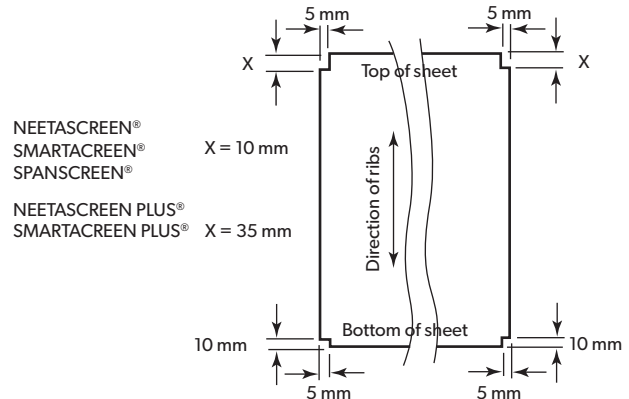

Figure 20.4
4. If required, fit edge cover strip to one side of the infill sheet for SMARTASCREEN® or SPANSCREEN® gates (Figure 20.4).